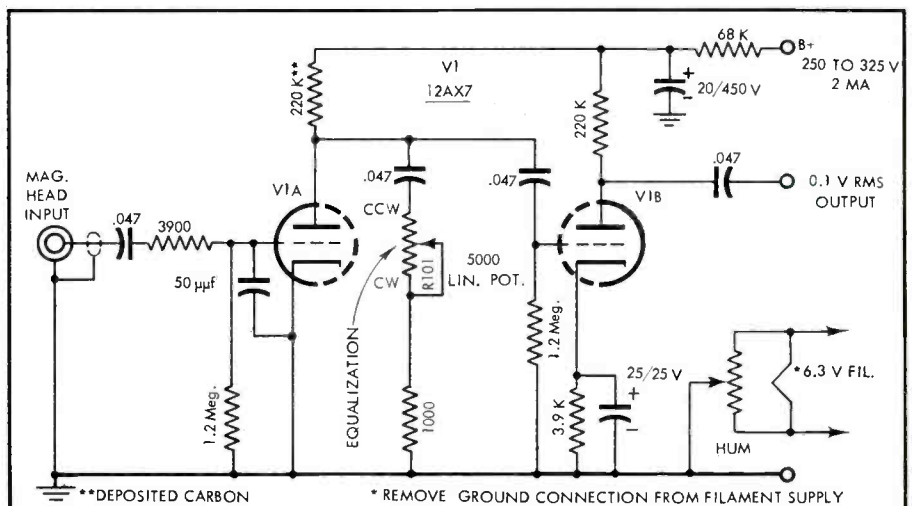

Fig. 6. One-tube preamplifier and equalizer for converting most audio amplifiers to NARTB-equalized tape-head input.
6. If another amplifier is available that does not have a tape head input with NARTB equalization, then a pre-amplifier can be added. Figure 6 is the circuit diagram of such a preamplifier which may be mounted on the chassis of the power amplifier, using the same B+ and filament supply. It has from 0.1 to 0.5 volts output, and so will drive most crystal phono cartridge or tuner input circuits. The preamplifier may, of course, be built up on its own chassis with its own power supply.